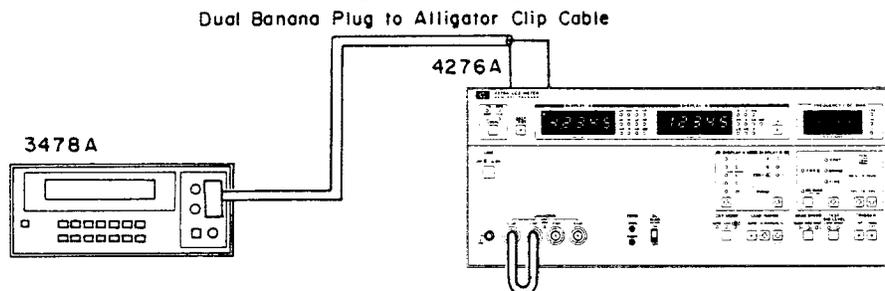

Figure 5-4. A2 DC Offset Adjustment Setup.
2. Connect the 3478A HI and LOW inputs to A2TP7 (PD/IN) and A2TP4 (GND), respectively, as shown in Figure 5-4.